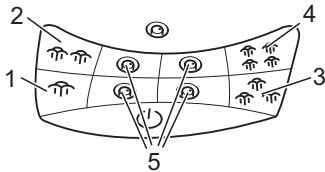

Fig. 13
- **Steam level 1 (Fig. 13/1) e. g. for:**
- **Steam level 2 (Fig. 13/2) e. g. for:**
- **Steam level 3 (Fig. 13/3) e. g. for:**
- **Steam level 4 (Fig. 13/4) e. g. for:**
The indicator lights (Fig. 13/5) show the currently selected level.